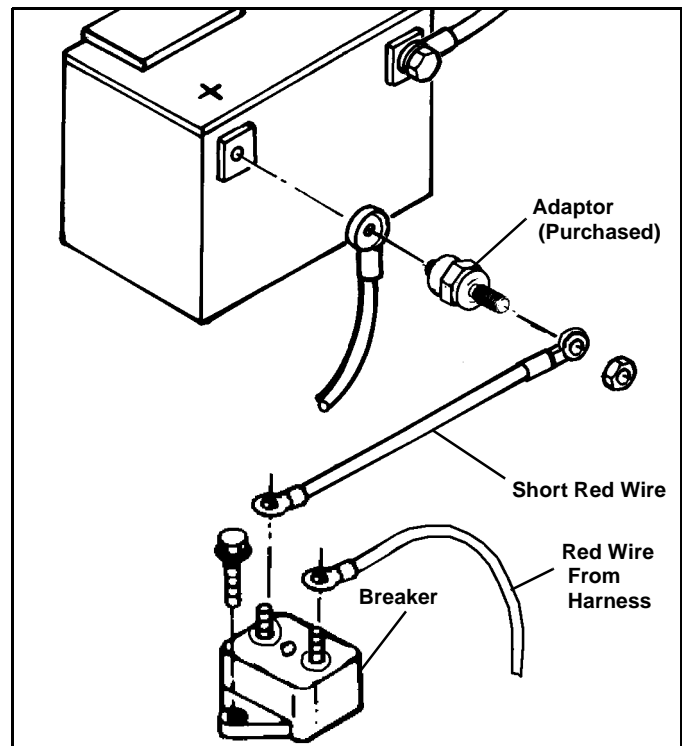

Figure 1-4
*NOTE: If the vehicle has a "side post" battery, it will be necessary to install adaptors (#96100773) to make connections at the vehicle battery. (See Figure 1-4).*